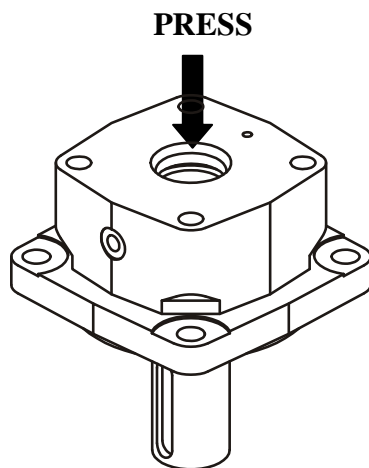

Fig.5
10. Fix Housing in a hydraulic press and push output shaft with bearing kit out of housing (see Fig.5).